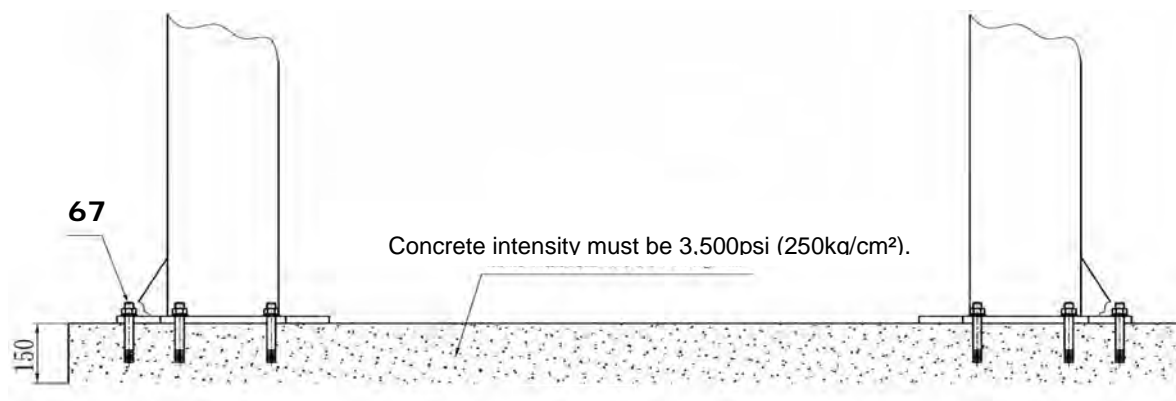

Fig. 2
MODEL OH1000X (See Fig.2)
B. SPECIFICATIONS OF CONCRETE (See Fig. 2)